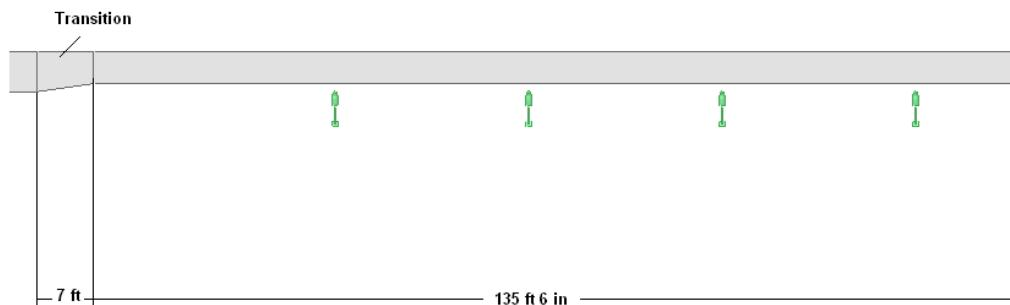

Figure 6: Plan View
- Select the End of the transition and continue routing the trenches in the east E direction as shown in Figure 6.